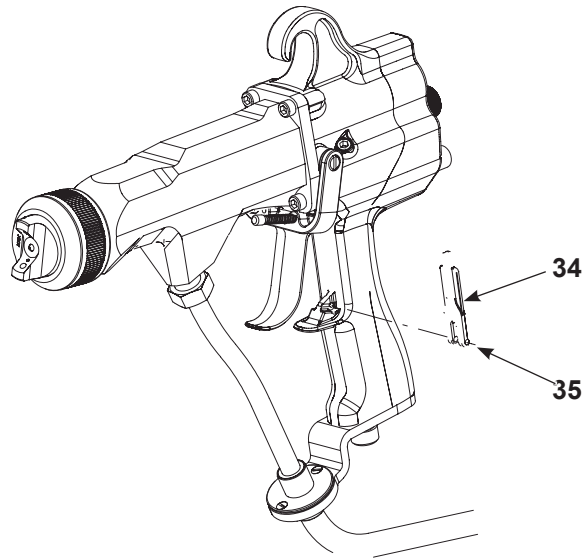

Figure 7-3 Trigger Lock Replacement
1. See Figure 7-3. Drive the pin (35) out of the trigger lock (34) and handle with a small dowel pin.